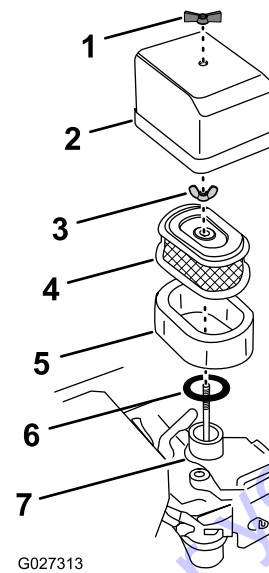

Figure 19
3. Wipe clean the air filter cover (Figure 19).
4. Remove the wing nut that secures the air-filter cover to the carburetor and remove the cover (Figure 19).
5. Remove the foam filter element from the paper filter element (Figure 19).
7. Remove the wing nut that secures the paper filter element to the carburetor (Figure 19).
4. Assemble the foam element onto the paper filter element (Figure 19).
1. Wipe clean the dirt from the carburetor base and the inside of the cover with a moist rag (Figure 19).
2. Ensure that the rubber gasket is aligned and seated onto the mounting base of the carburetor (Figure 19).
3. Align the paper filter element with the carburetor and ensure that the hold-down rod of the carburetor passes through the top plate of the filter (Figure 19).
4. Secure the filter to the carburetor with the filter wing nut and tighten it finger tight (Figure 19).
5. Align the air-filter cover over the air filter elements with the hold-down rod of the carburetor passing through the top cover (Figure 19).
6. Secure the cover to the engine with the cover wing nut and tighten it finger tight (Figure 19).